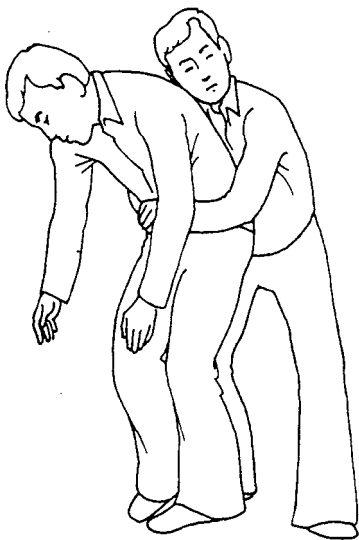

Figure 10-5.—Position for standing abdominal thrust.
1. Stand behind the victim and wrap your arms around the victim's waist, as shown in figure 10-5.